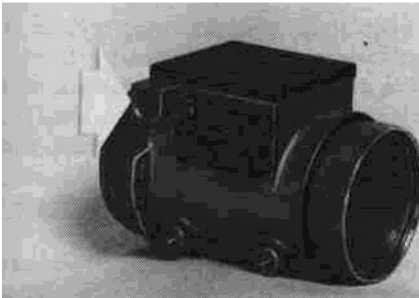

Fig. 36. Air mass meter anti-tamper plug (arrow),
- If the resistance reading is incorrect, remove the anti-tamper plug from the side of the air mass meter. See Fig. 36. Turn the screw until the correct reading is obtained.